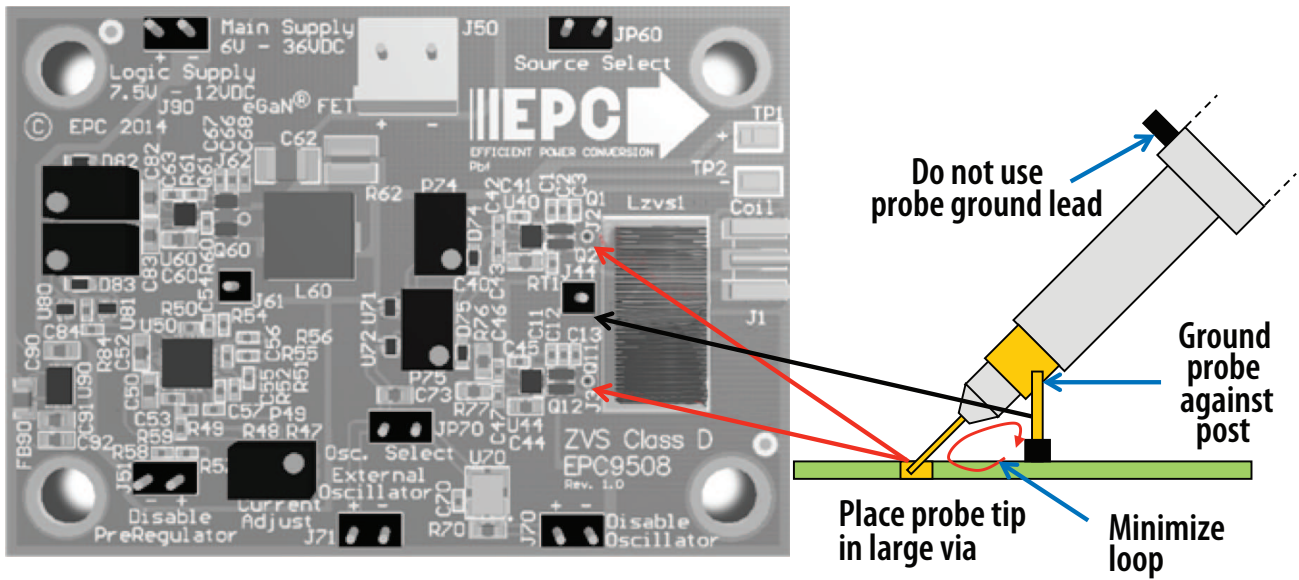

Figure 3: Proper Measurement of the Switch Nodes Using the Hole and Ground Post
3. Connect a LOW capacitance oscilloscope probe to the probe-hole J2 and lean against the ground post as shown in Figure 3.